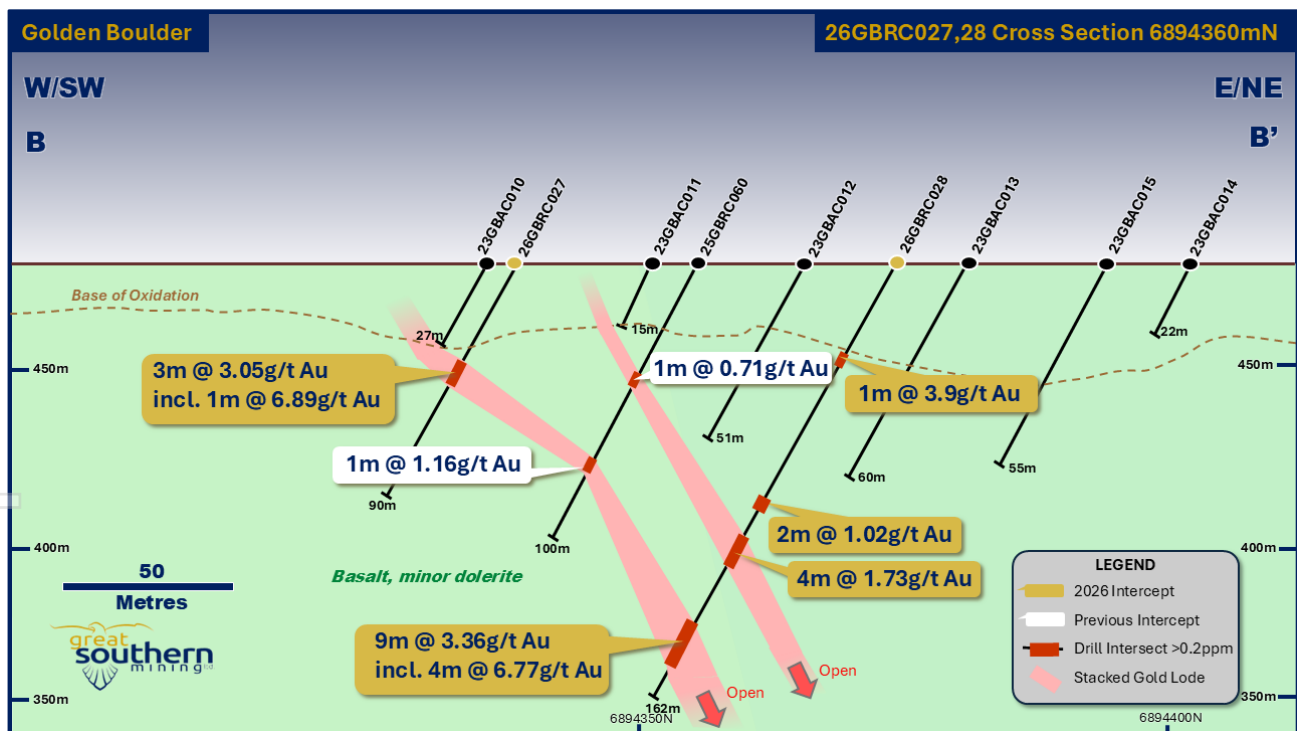

Figure 3. Interpreted cross-section at 6894360mN showing results from recent drill holes 26GBRC027 and 26GBRC028 and previous drilling.
- 1m at 1.11 g/t Au from 22m and 1m at 3.9 g/t Au from 31m and 2m at 1.02g/t Au from 85m and 4m at 1.73 g/t Au from 96m and **9m at 3.36 g/t Au from 127m, including 4m at 6.77 g/t Au** in hole 26GBRC028 (Figure 3)